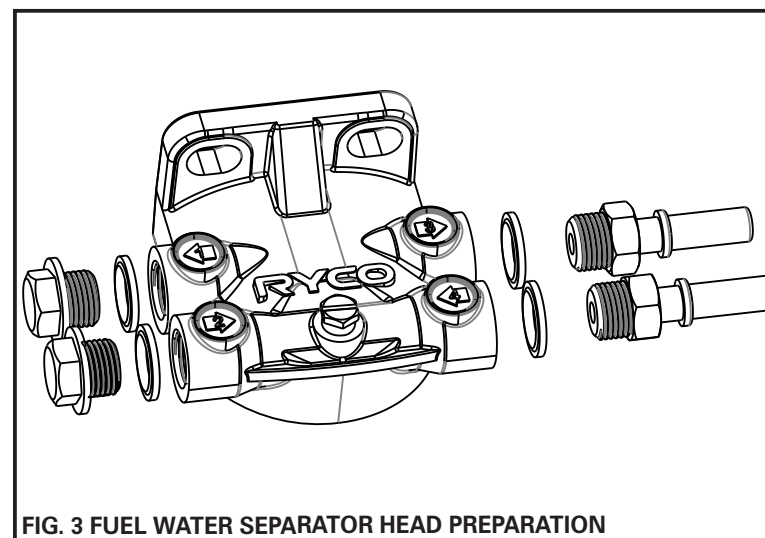

FIG. 3 FUEL WATER SEPARATOR HEAD PREPARATION
3. Install the Ryco fuel water separator head with metal quick connectors, blanking plugs and rubber bonded washers, as per Fig 3. Tighten blanking plugs (on Port 1 & 2) and quick connectors (on Port 3 & 4).